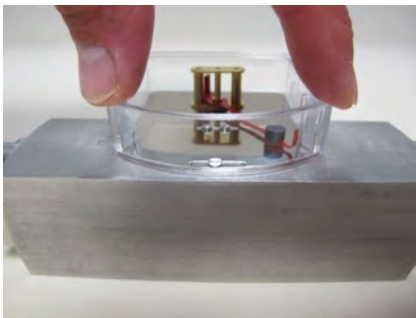

Fig. 59
- 13.** ▶ Fit the plastic housing on the display base plate and press down until it snaps into place. (Fig. 59)